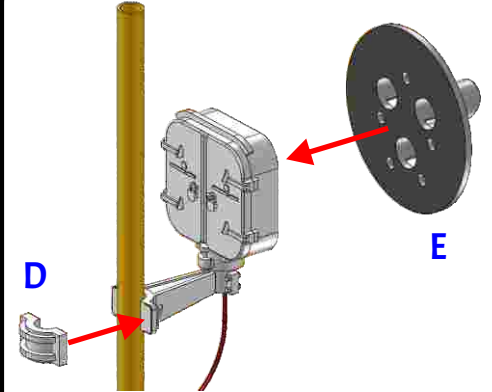

FIG. 4
STEP 4 OPTION: ASSEMBLE THE FACE SHIELD (E) AND HOODS (F) WITH SUPER GLUE OR SOLDER. IN THIS CASE, CAREFULLY CUT THE HOODS OFF THE RESIN SIGNAL HEAD. PRIME THE ASSEMBLED HOOD WITH A LAQUER BASED PRIMER AND PAINT WITH A FLAT BLACK SPRAY PAINT. ATTACH THE HOOD TO THE FRONT OF THE SIGNAL HEAD WITH CANOPY GLUE (FIG. 4). THIS WILL ALLOW IT TO BE REMOVED IF NECESSARY.